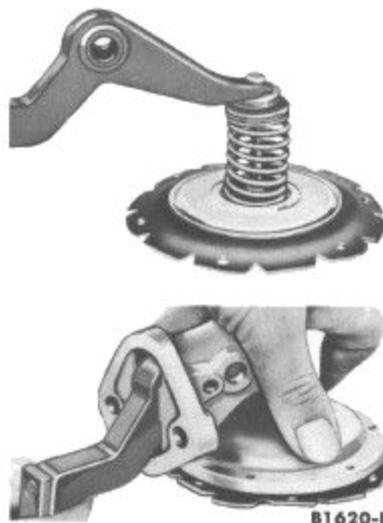

FIG. 38—Rocker Arm Installation
1. Position the fuel pump diaphragm assembly into the pump body. Apply pressure on the diaphragm spring so that the rocker arm can be installed on the stem as shown in Fig. 38.